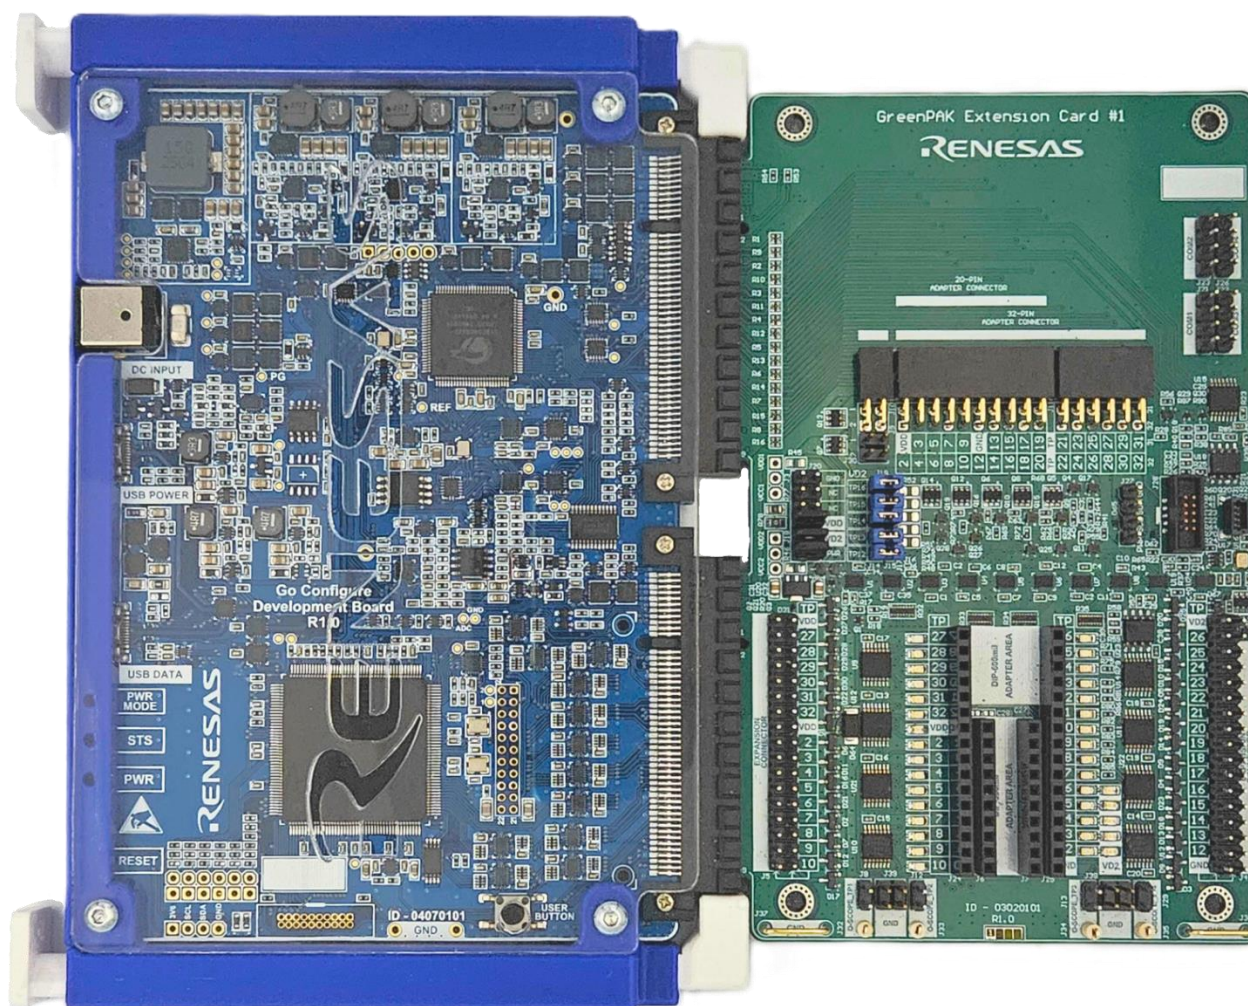

Figure 4. Go Configure Development Board and GreenPAK Extension Card #1 Stack
2. Connect the Go Configure Development Board to the GreenPAK Extension Card #1 (see Figure 4).